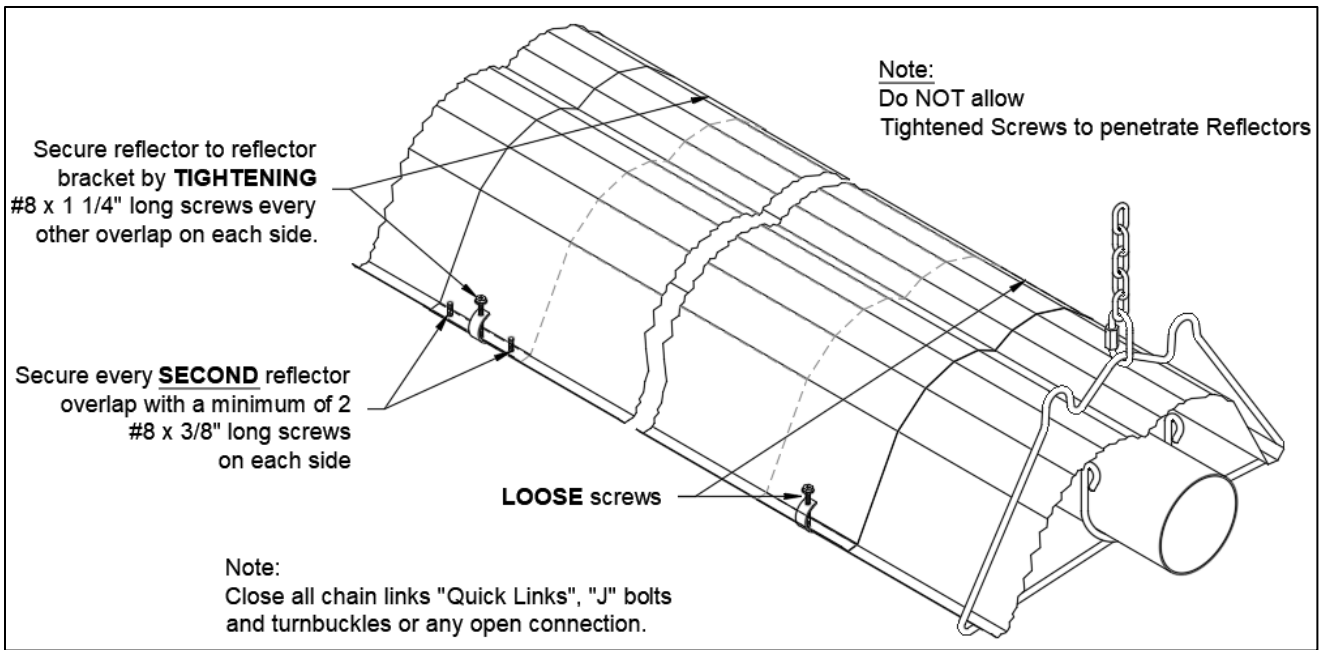

Figure 17: Reflector Supports Installation and Reflector Overlap
- Secure every second reflector overlap together with a minimum of 2 - #8 x 3/8" long screws (not supplied), and secure reflector to the reflector bracket at this point by tightening down #8 x 1 1/4" screws supplied with reflector brackets (Figure 17). The remaining reflector overlap joints and reflector brackets are left loose to accommodate system movement.